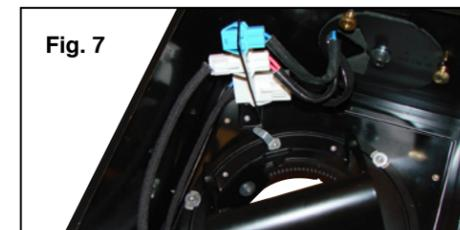

Fig. 7
1. Locate the socket and transformer connectors inside the housing (Fig. 7). The blue transformer connector is the boost tap for dimming applications.
2. Rotate the aiming mechanism so the lampholder shield is inline with the connector bracket (Fig.7).